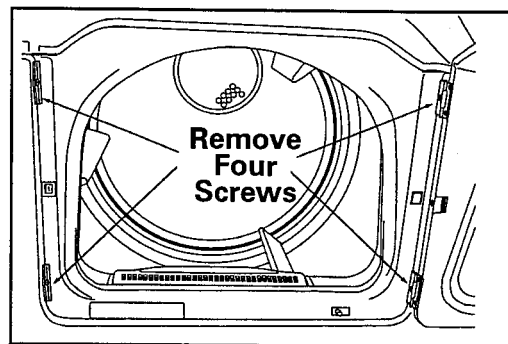

Figure 5-2
1. Open the door and remove the four screws along the inside lip of the door opening. (See Figure 5-2) Two are located vertically on either side of the door opening. These screws secure the front panel to the front shroud assembly.